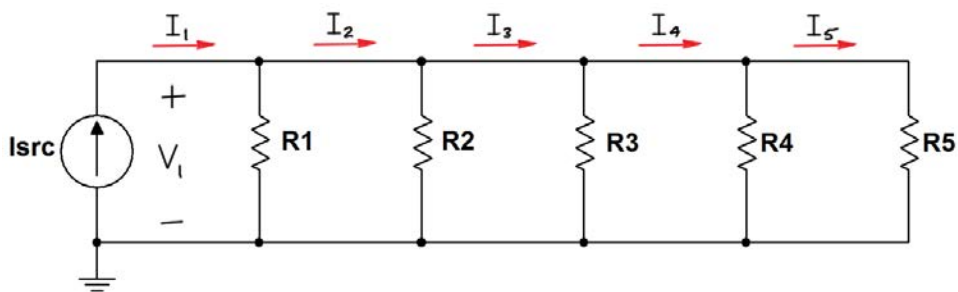

Figure 3.3: Modified circuit for Problem 3.2 to produce binary-weighted currents.
1. Consider the modified circuit of Figure 3.3. Apply mesh-current analysis to write a set of equations in terms of the indicated currents and resistor values.